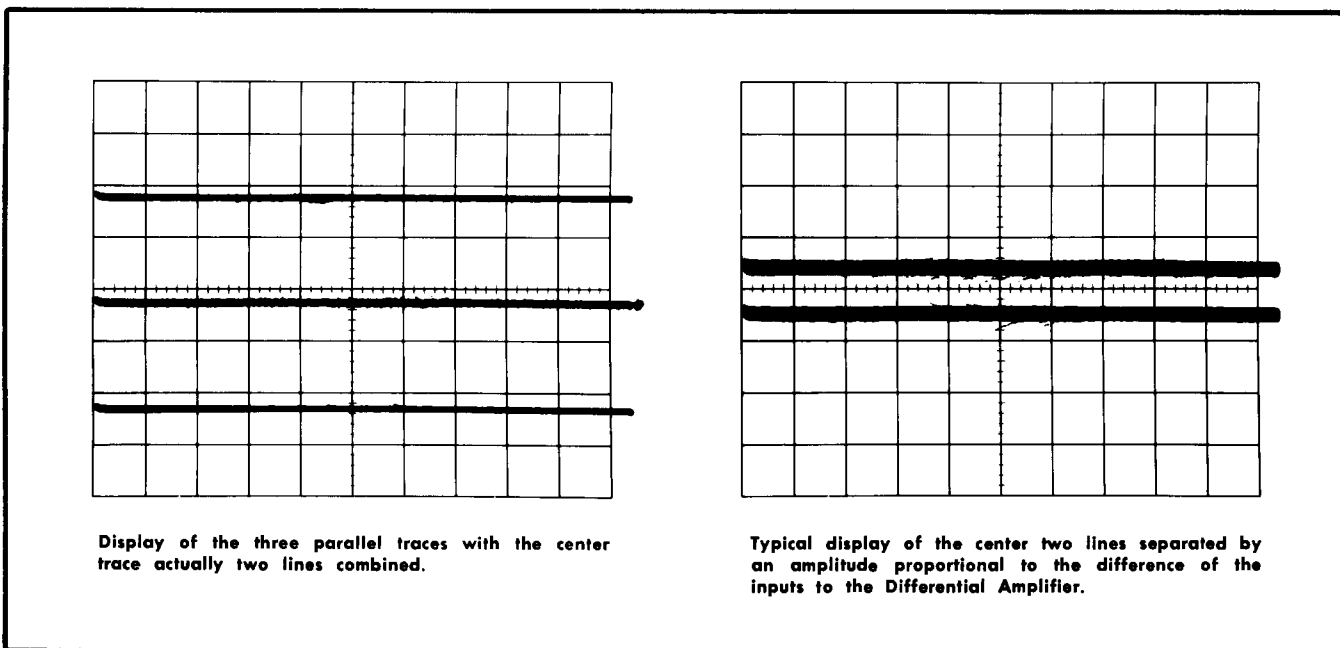

Fig. 5-5. Checking AMPLITUDE CALIBRATOR accuracy.
f. Check—There should be 3 or 4 parallel lines on the test oscilloscope with the center line or lines showing the difference in amplitude of the two signals that are applied to the A and B inputs of the Differential Amplifier. See Fig. 5-5.